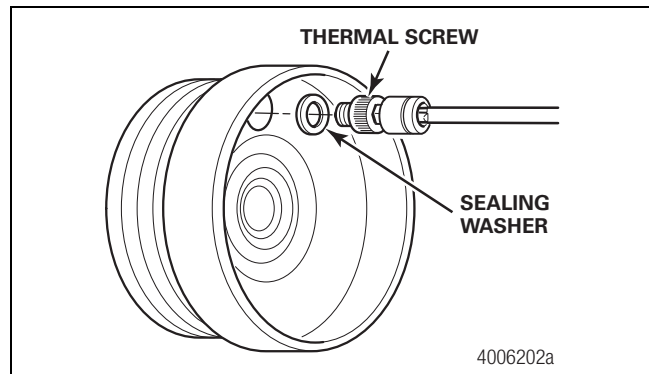

Figure 6.10
1. Remove the activated heat-sensing thermal screw using a 5/32-inch (4 mm) Allen key. Figure 6.10.